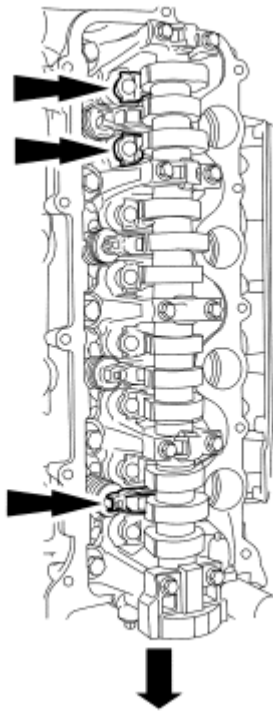

Fig. 46: Identifying RH Cylinder Head Camshaft Roller Followers And Bolts
5. Remove only the 3 roller followers shown in the **Fig. 46** from the RH cylinder head.